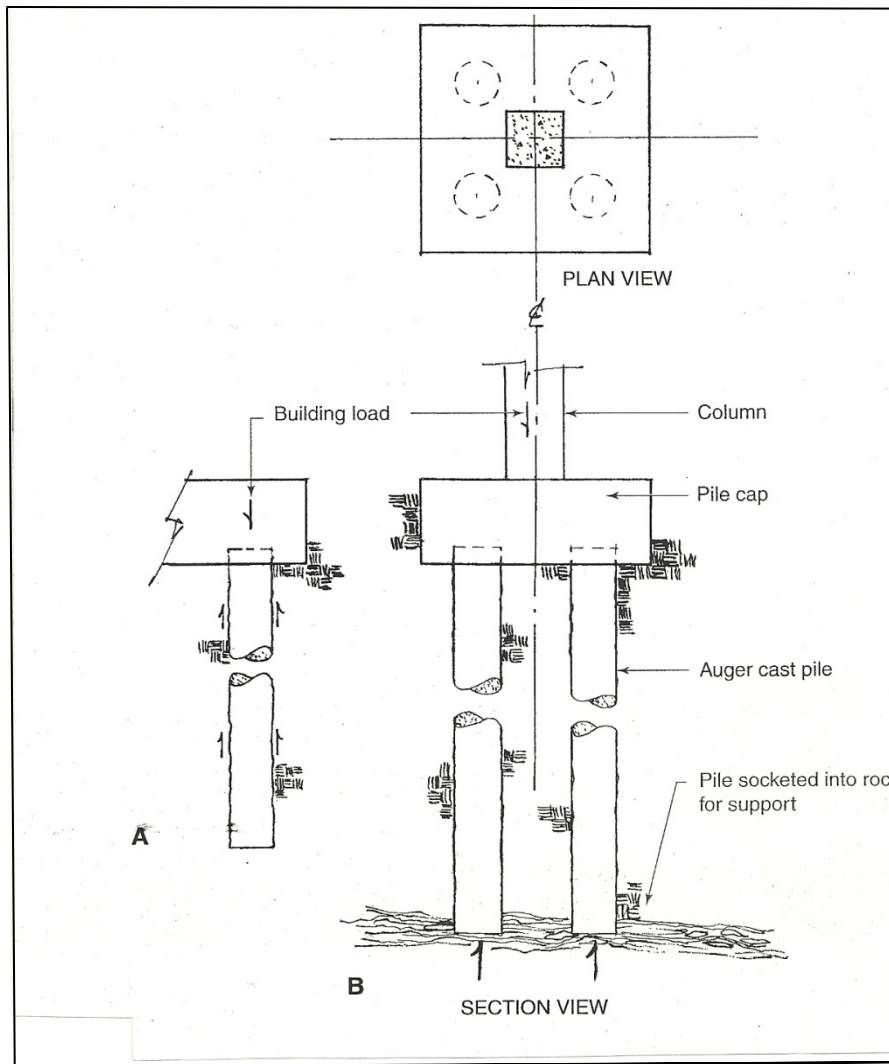

Figure VII.4 Section and Plan of Auger Cast Pile
**VII.3. Auger cast piles** – This type of foundation is drilled with a 12" – 14" steel auger to the appropriate design depth. While the drilling shaft is being raised out of the hole, concrete is pumped down the shaft to fill up the cavity. In an auger cast pile system on a drawing there are several auger cast piles clustered together. They are topped with a pile cap to make the cluster work as a total load system as shown in Figure VII.4.